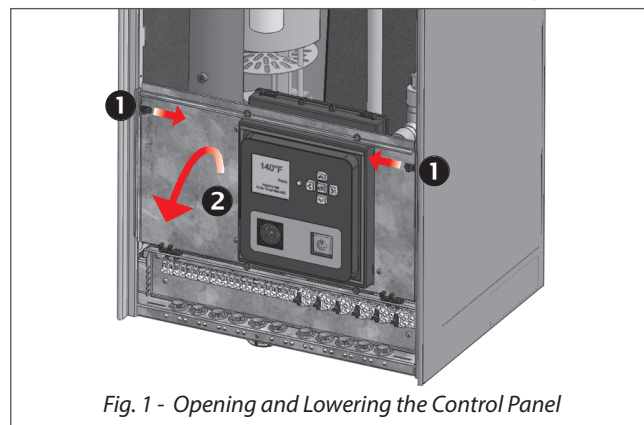

Fig. 1 - Opening and Lowering the Control Panel
5. Slide left and right tabs of control panel inward and lower control panel. See *Fig. 1*